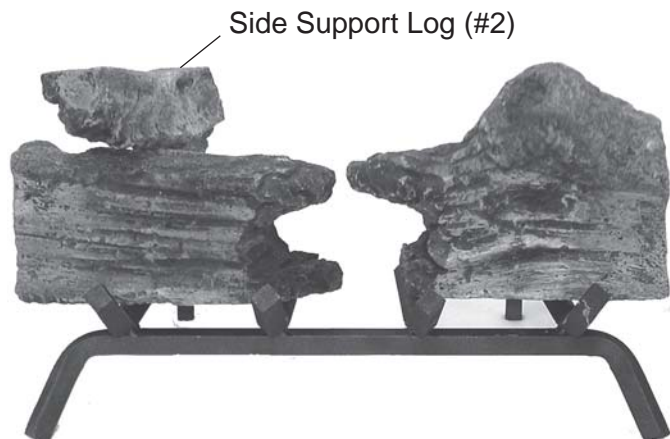

Figure 95 - Placing Side Support Log (#2) on Top Left of Log #1A
4. Place front end of Side Support Log #2 on top left of Log #1A. Rest other end of Log #2 on rear grate bar. See Figure 95.